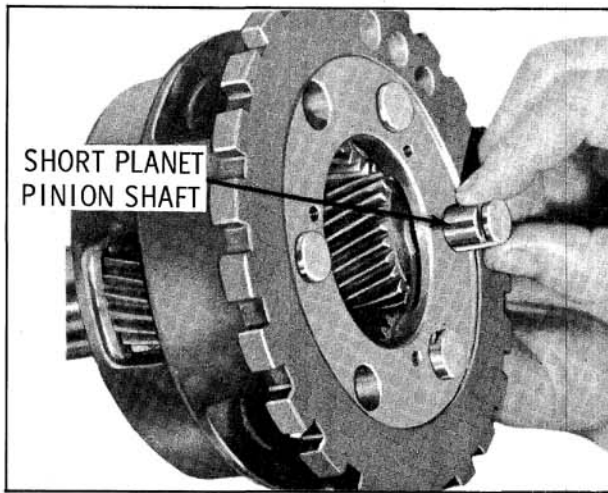

Fig. 6-475 Installing Short Pinion Gear
11. Position short planet pinions with thrust washers at each end of the planet carrier. Install pinion shafts from the rear of planet carrier. As the pinion shaft is being pushed in, make certain that it picks up the thrust washers. Turn the pinion shaft so the groove faces center of planet carrier. (Fig. 6-475)